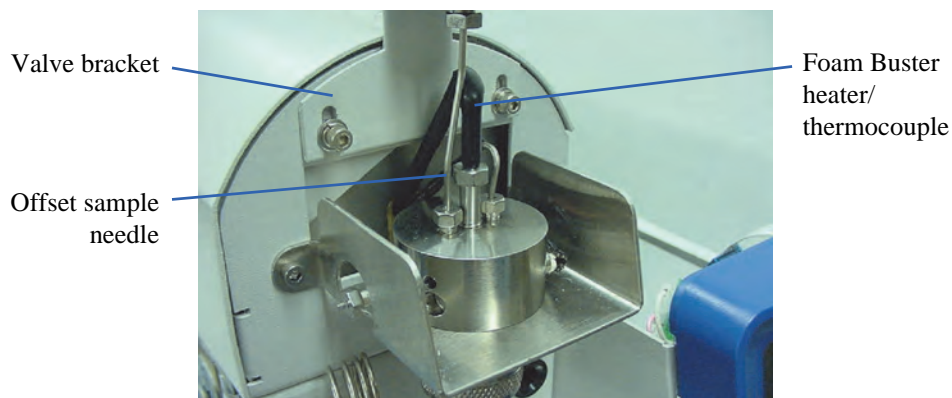

Figure 8.12. Installing the valve bracket on the Eclipse
- Attach the valve bracket on the Eclipse (Figure 8.12). Do not tighten the screws.